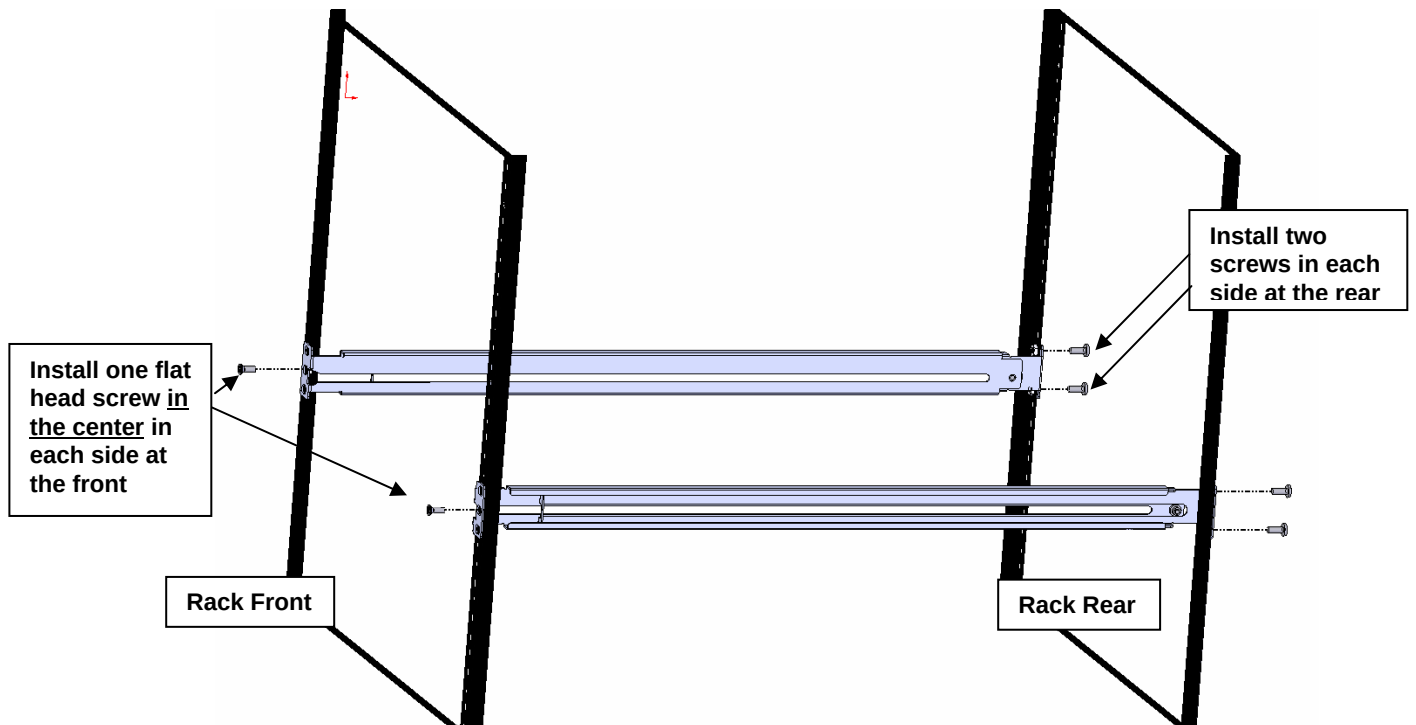

Figure 3- Install the rail assemblies
1. Connect each CPU to the UNIMUX switch using a USBVEXT-xx-MM video and input device interface cable – REQUIRED (not supplied). (See Fig. 3)